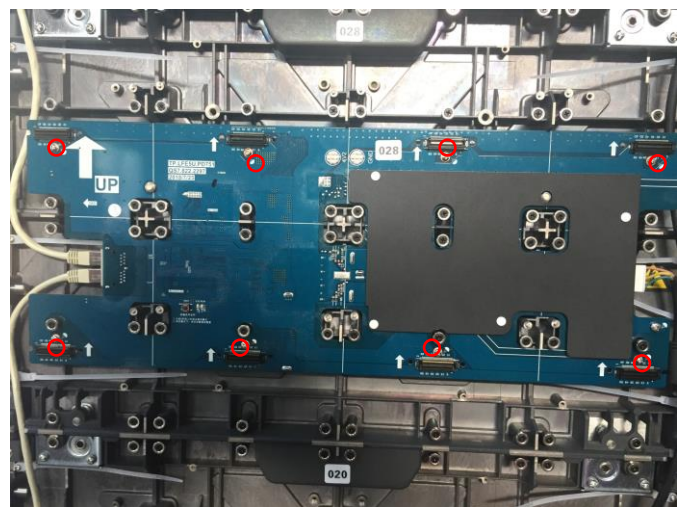

Figure 5.3
- ② Disconnect the cable connected to the malfunction hub board;
- ③ Remove the 8 screws of the hub board refer to Figure 5.3;